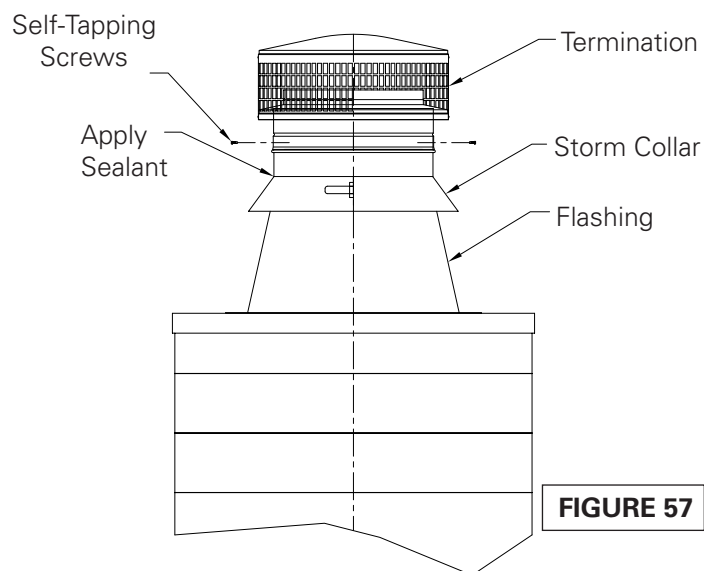

FIGURE 57
9. Attach the storm collar around the chimney above the screen of the flashing. Secure in place with the locking tab and button. Seal around the storm collar with a non-hardening waterproof sealant. Attach the Termination Cap to the chimney by sliding the male to female joint connection together and secure in place with four (4) sheet metal screws provided. **(Figure 57)**